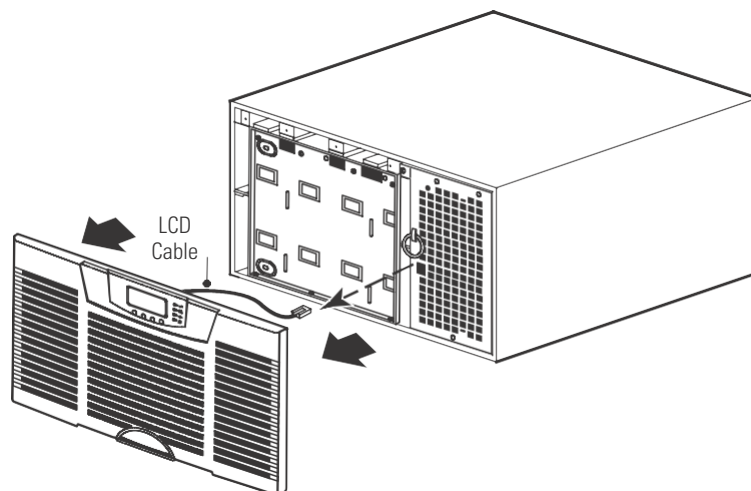

Figure 25. Removing the UPS Front Cover
2. Remove the UPS front cover and set it aside (see Figure 25).